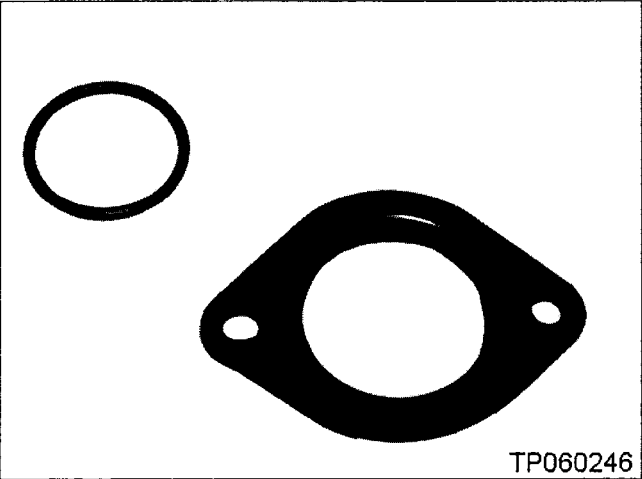

Figure 1c
- Exhaust tube gaskets; Figure 1c.